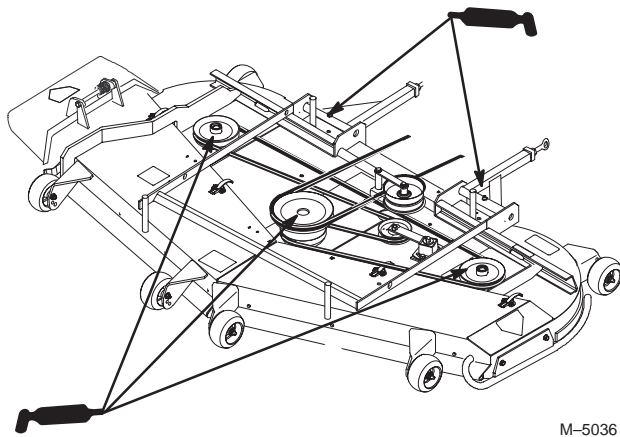

Figure 43
2. Grease the fittings on the three spindle bearings until grease comes out lower seals (Fig. 43).
3. Grease the fittings on the push arms (Fig. 43).